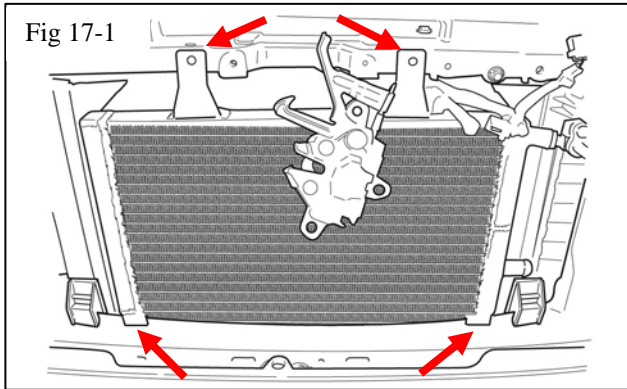

Fig 17-1
- (a) Place the LTR in position by placing the rubber grommets on the bottom over the upright flange on the lower radiator support. The upper mounting tabs on the LTR align with the mounting locations for the hood lock lever release protector (Fig 17-1). Do not install the bolts at the top at this time.